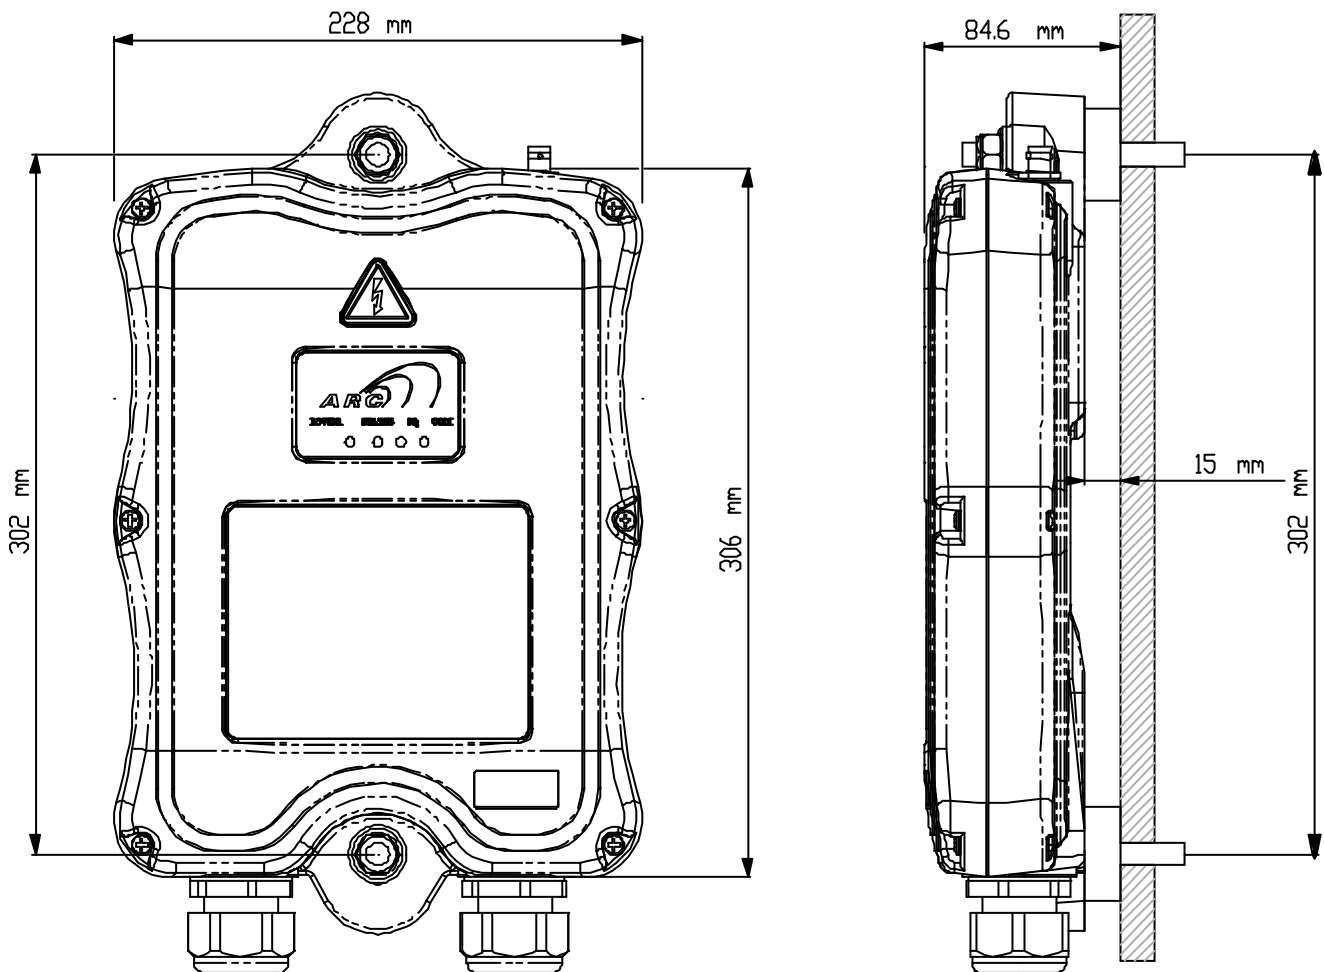

Fig. 13
5. Drill two holes (10mm in diameter) on the control panel or location where the receiver is to be installed (Refer to Fig. 13 on page 21).